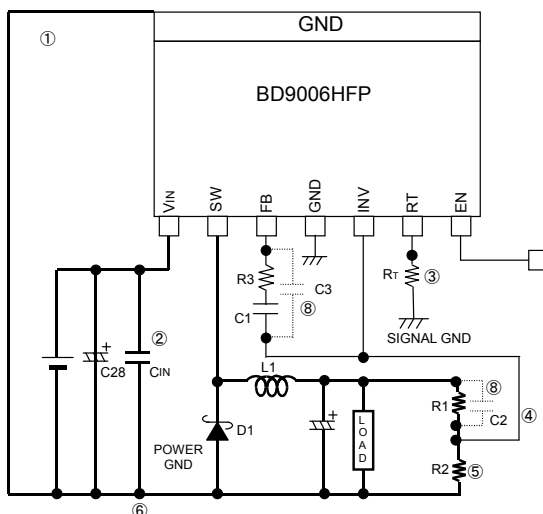

Fig.24
This circuit generates the pulse wave to be input to the slope, and by connecting resistance to "RT", 50~500kHz oscillating frequency can be configured. (Refer to p.11 Fig.24)
6. Setting of oscillating frequency Referring Fig.24 on the following page, select R for the oscillating frequency to be used.	When $f=300kHz$ From p.11 Fig.24, a resistance of $R_T=51k\Omega$ is selected. $R_T=51k\Omega$